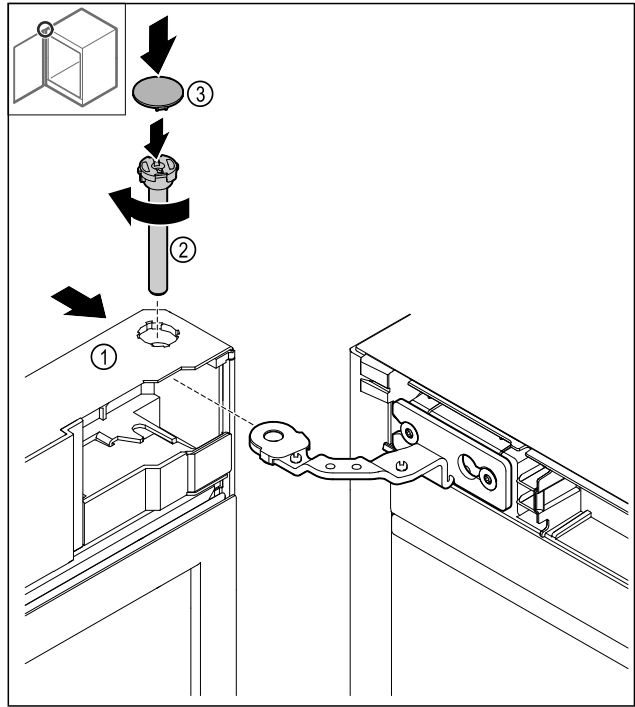

Fig. 47
- Slide the door Fig. 47 (1) onto the top hinge.
- Insert the bolt Fig. 47 (2) and turn it clockwise to tighten.
- Put on the cover Fig. 47 (4).